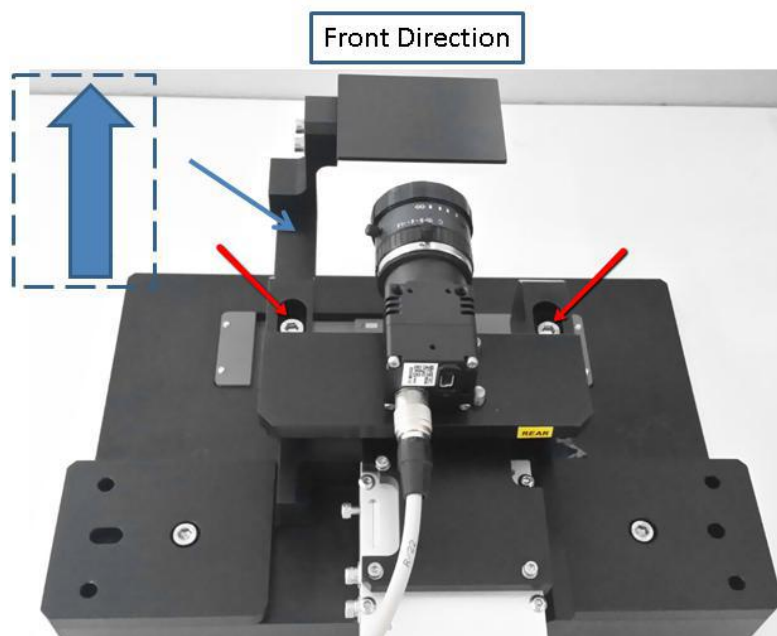

Figure 36 Module Extend towards Front Direction
35. Loosen 2 x Screws and extend the module towards Front Direction as below Figure 36. Tighten 2 x Screws once module is fully extended.